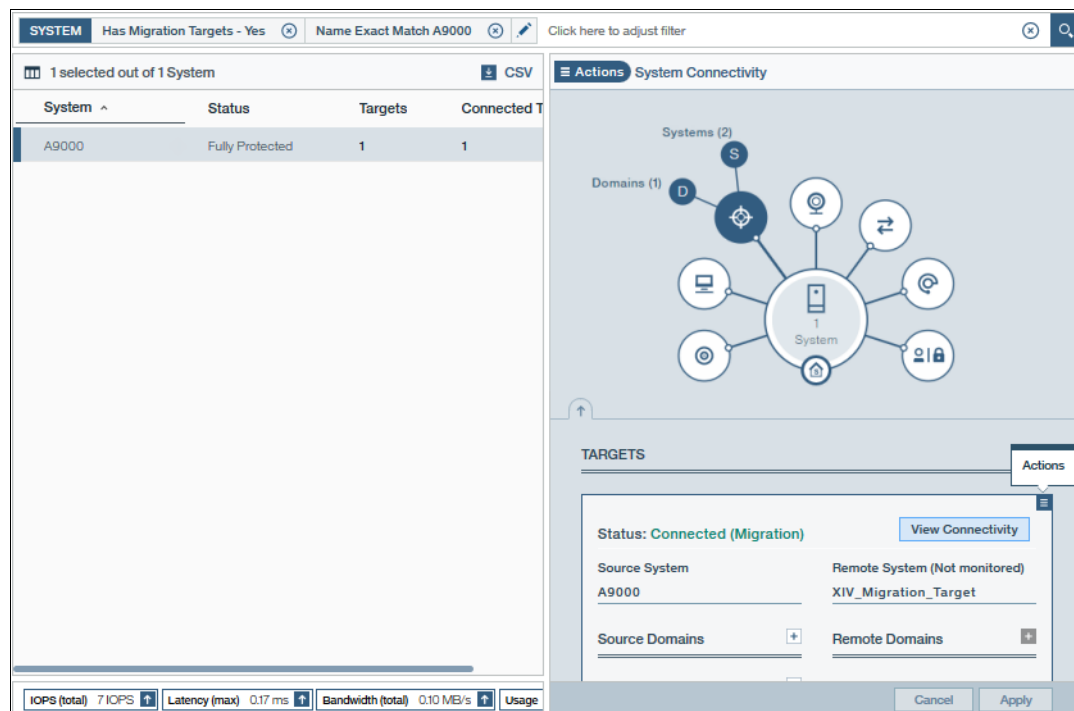

Figure 8-24 Actions menu in the System Connectivity window
1. Select **Actions** → **Targets** → **View/Modify Targets** → **Actions** menu of the migration target XIV_Migration_Target, as shown in Figure 8-24.